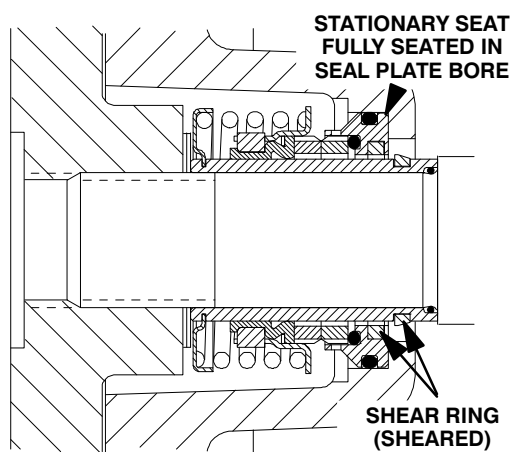

**Figure 9. Seal Partially Installed**
Clean and inspect the impeller as described in **Impeller Installation and Adjustment**. Install the full set of impeller shims (29) provided with the seal, and screw the impeller onto the shaft until it is seated against the seal (see Figure 9).